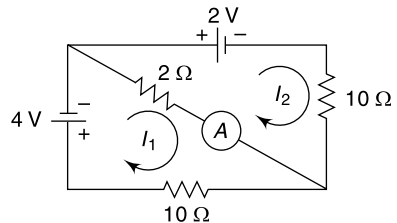

Fig. 4.54 Circuit of Ex. 4.38
4.38 Find the ammeter current in Fig. 4.54 using mesh analysis.
$$I_2 - I_1 = \frac{52}{140} - \frac{32}{140} = \frac{1}{7} \text{ A [in the direction of } (I_2) \text{ as shown in Fig. 4.54].}$$